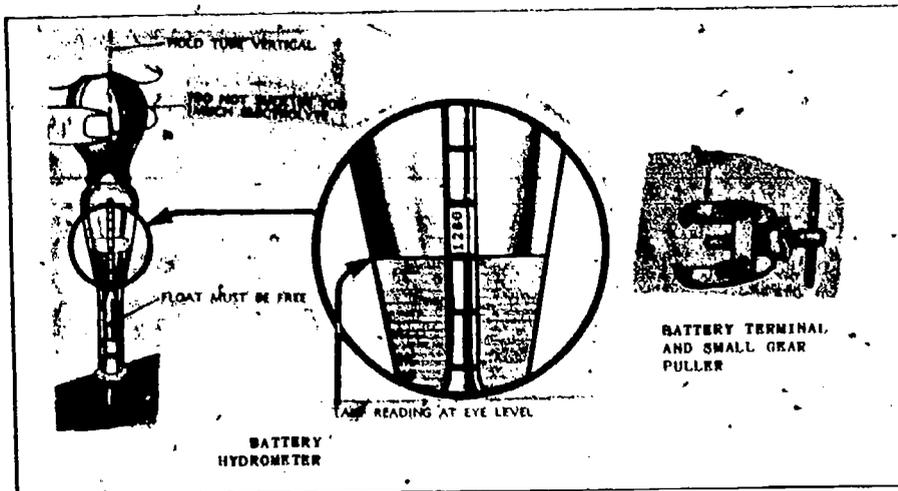

Fig 1-4. Battery service equipment.
- (4) Battery service equipment (fig 1-4). A small hose connected to a nonmetallic container is normally used to fill batteries with water. A battery hydrometer is used to measure the specific gravity of the liquid in the battery. A small puller is sometimes needed to remove the battery cable clamps from the battery terminals. Wire brushes and scrapers are used to clean the battery terminal and the cable clamps.